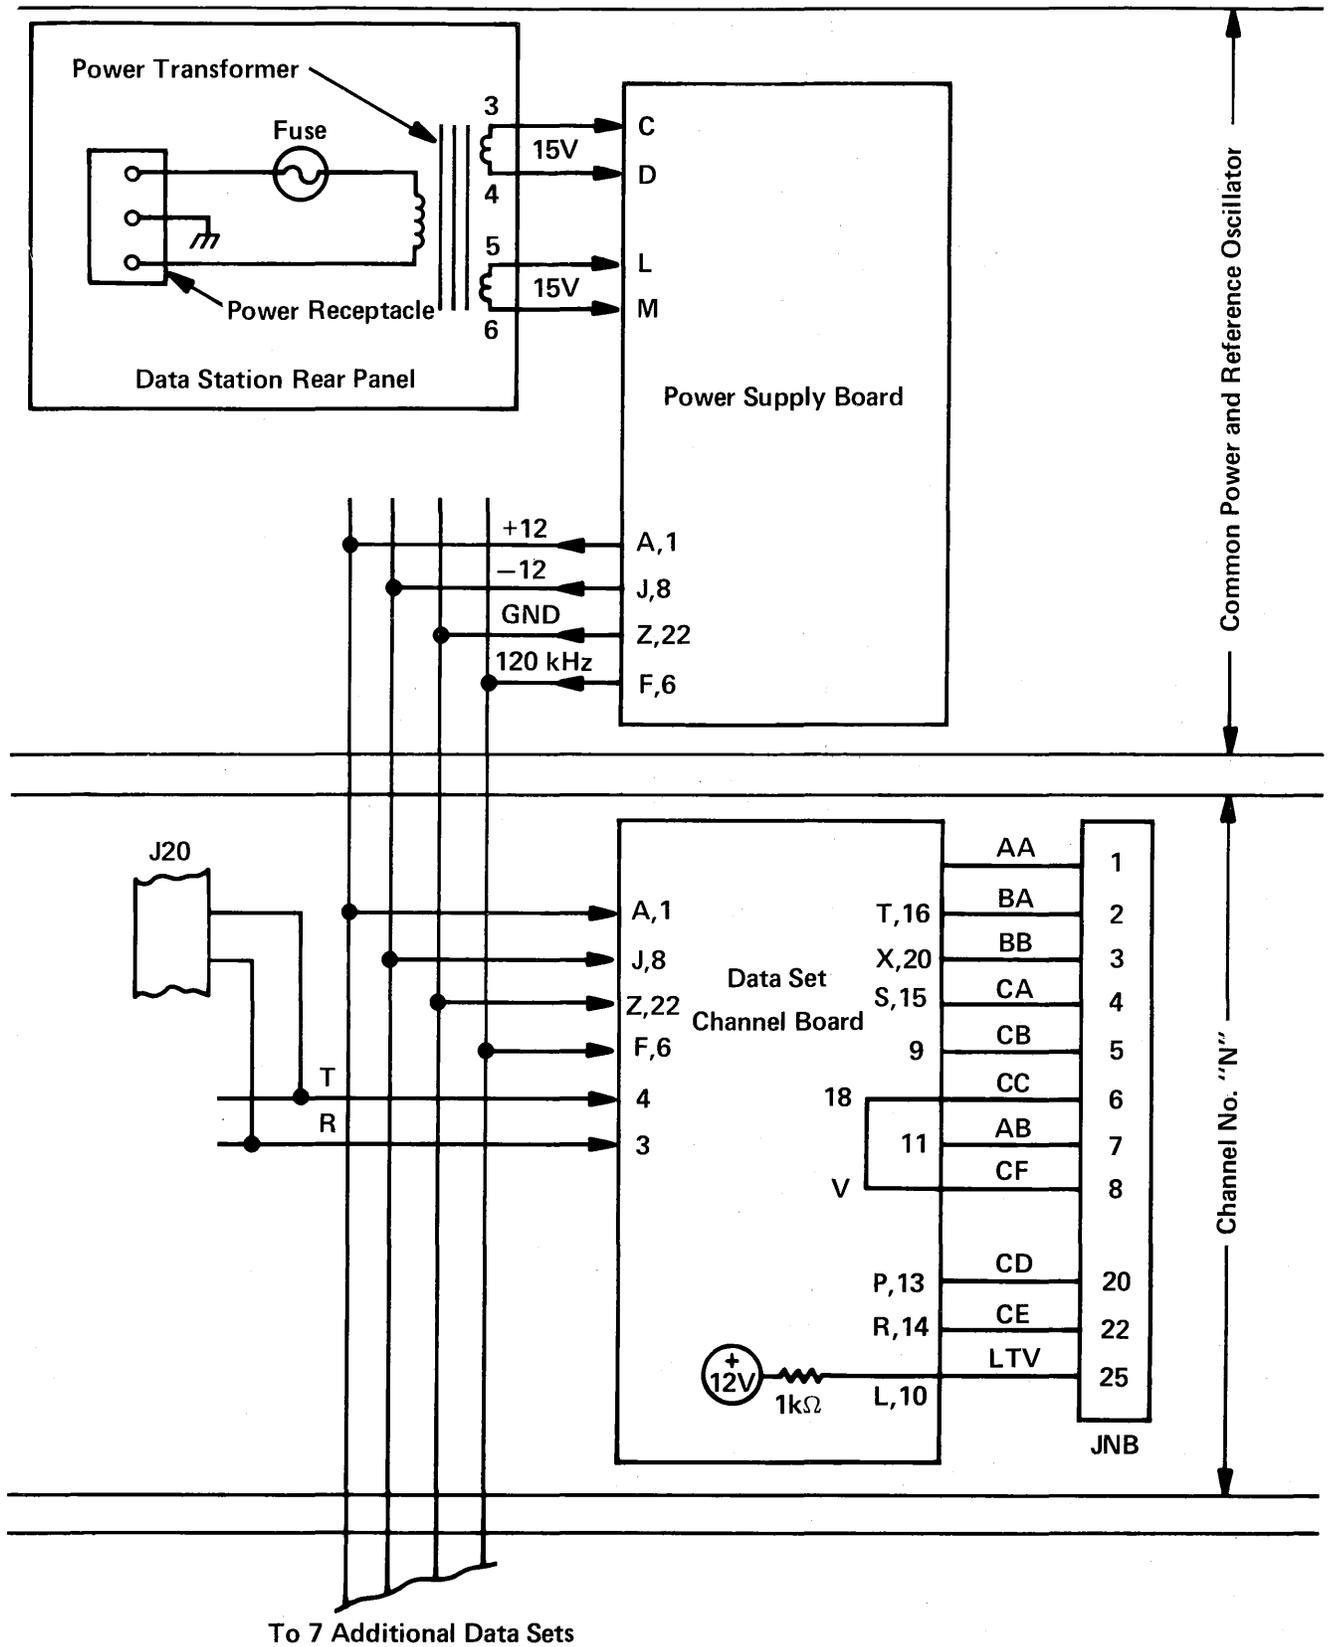

Figure 13, Data Station Interconnection Diagram
4.09 The wiring between the board and the receptacles is performed by an interconnect assembly within the data mounting (see Fig. 13). The power and reference frequency drives from the power supply board are bussed to the data set board connectors;